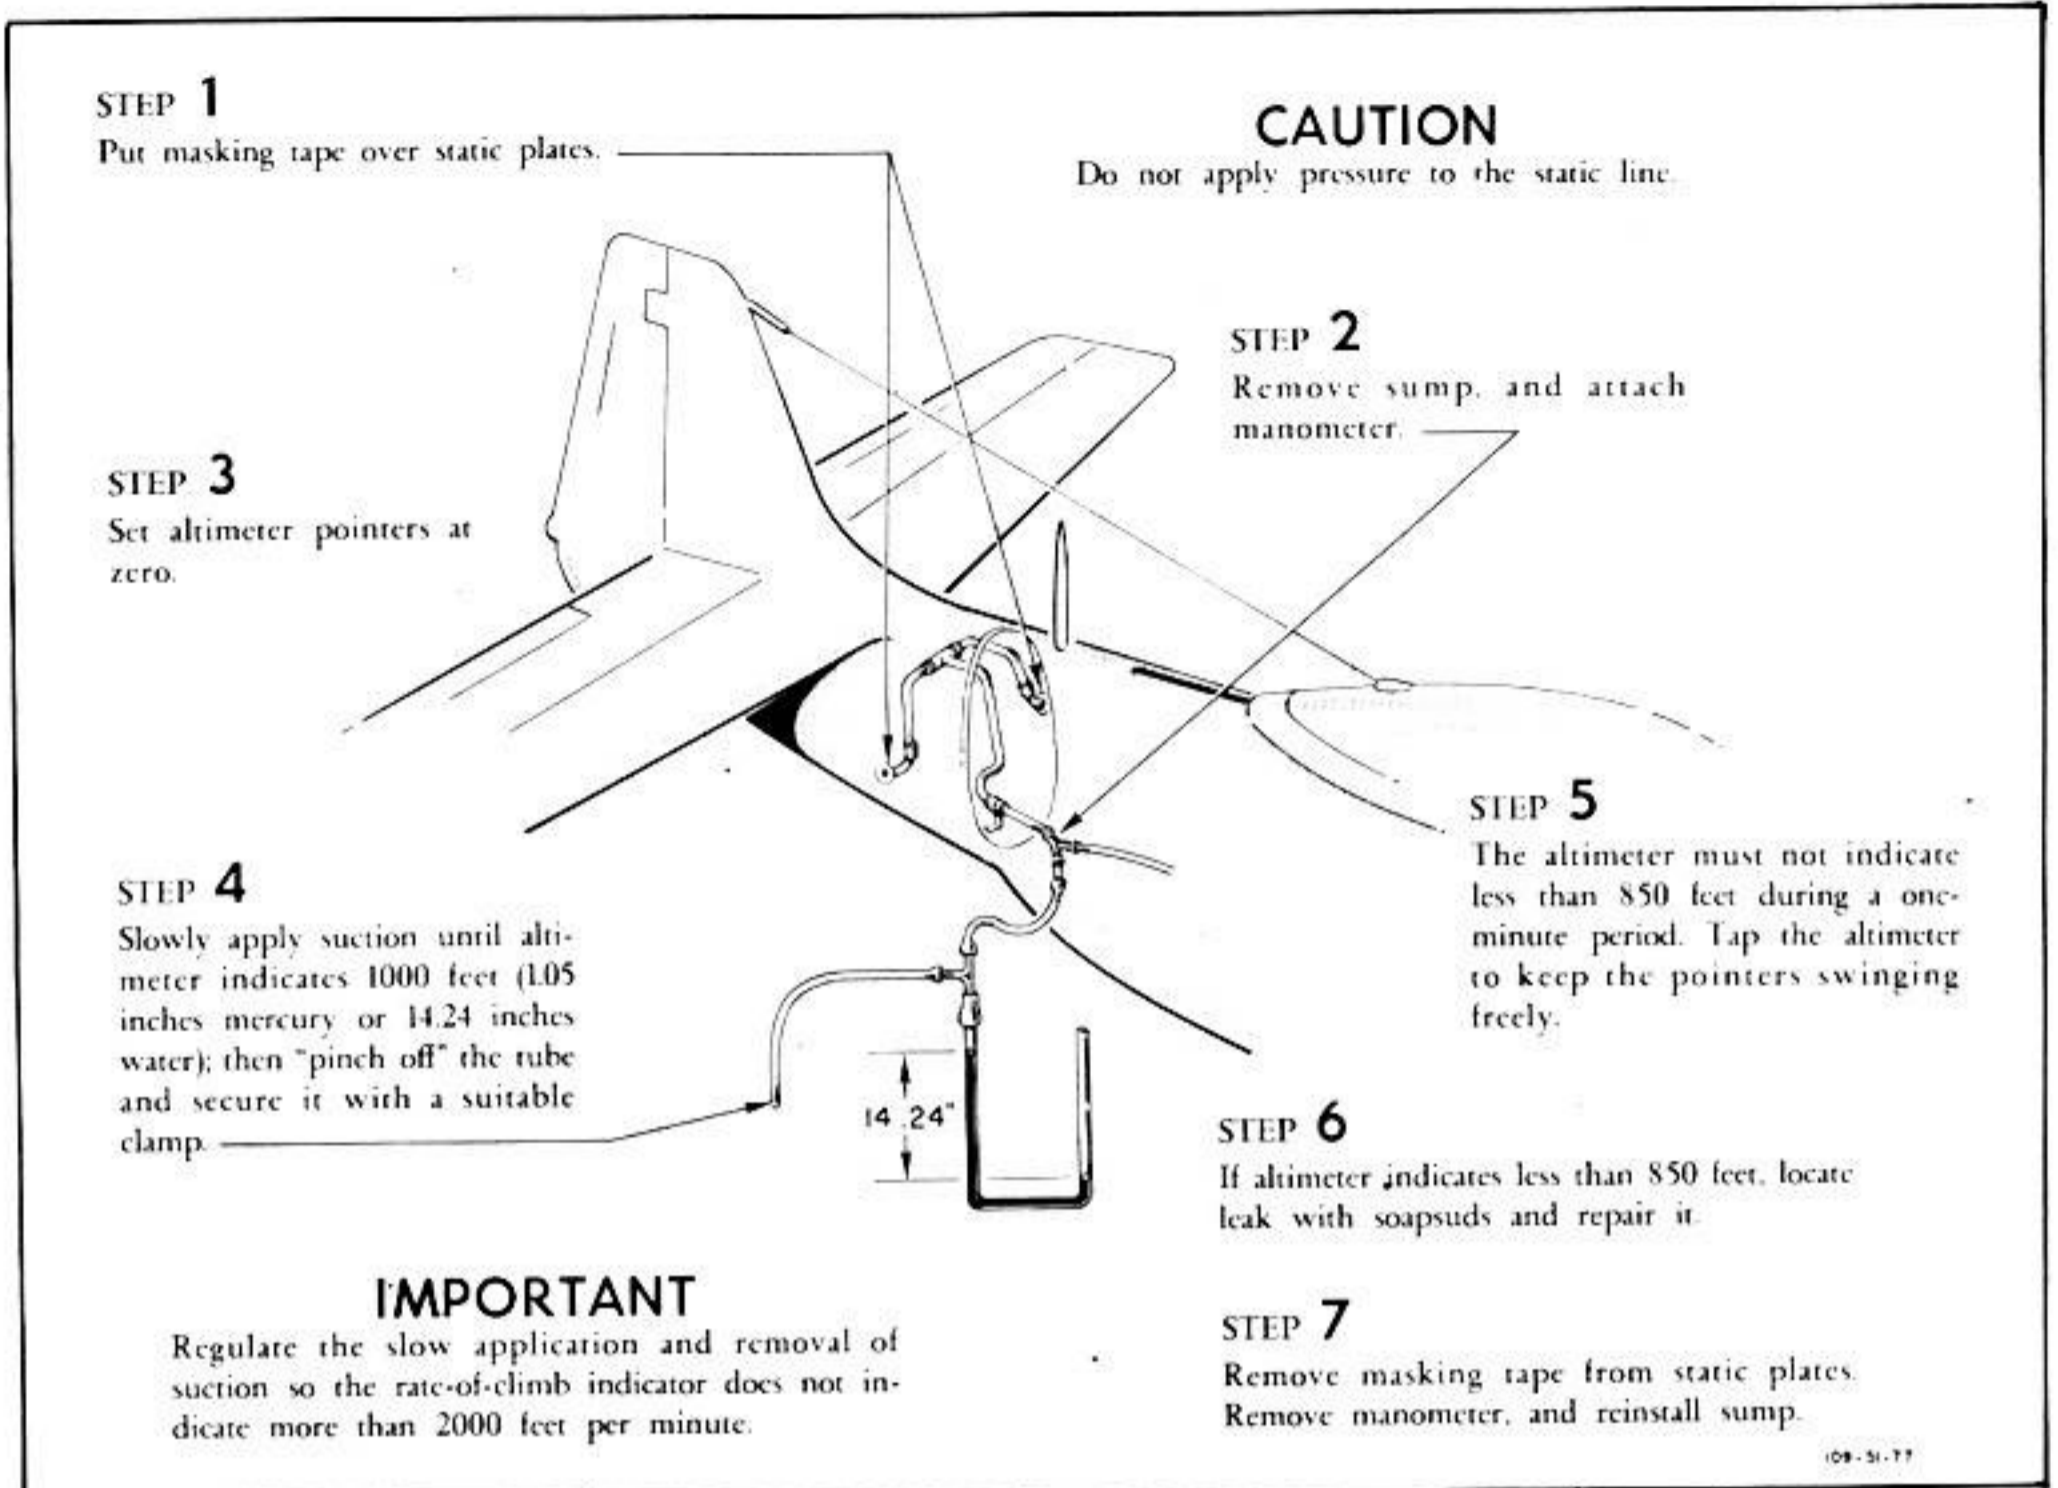

Figure 293—Static Pressure Test
- (c) TESTING AIRSPEED SYSTEM STATIC LINE. (See figure 293.)